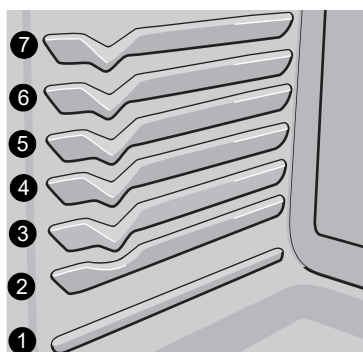

Figure 2: Oven rack positions
- For best results when baking cakes or cookies using two oven racks, place racks in positions 3 and 6 (See Figure 2).